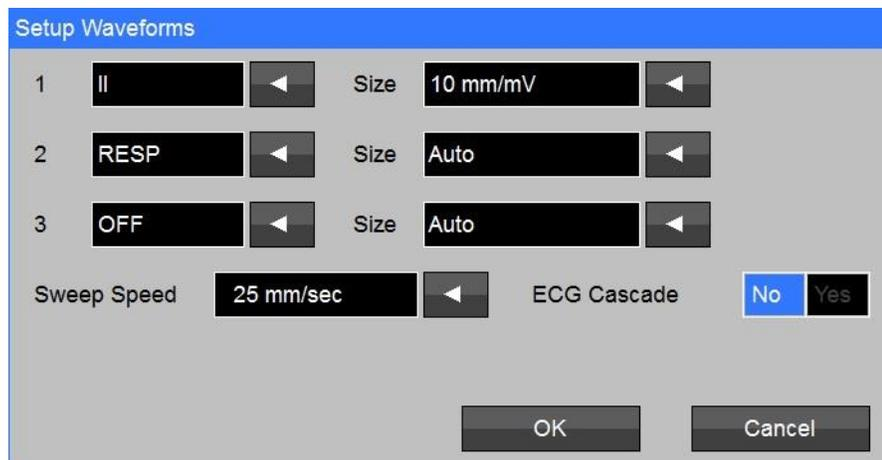

Figure 17: Resp Waveform Setup screen
- g. Touch the  adjacent to the **Waveform 2** selection (Refer to Figure 17);